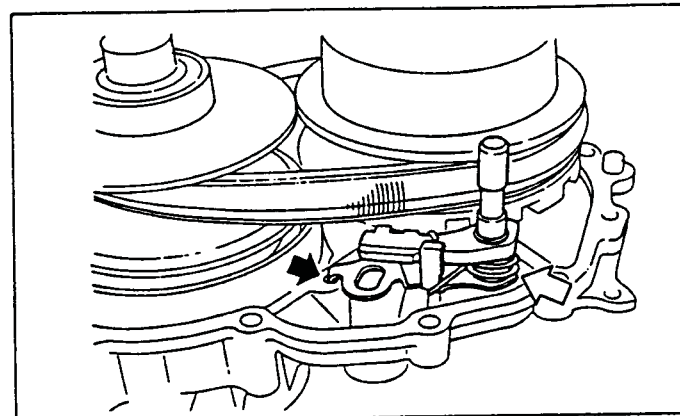

Fig. 215
- Ensure the pawl of the guide end is inserted into the hole in the side case (in area shown by arrow "➡") in Figure 215.
- Ensure the spring is not caught between the parking pawl and parking cam guide (in area shown by arrow "⇨") in Figure 215.